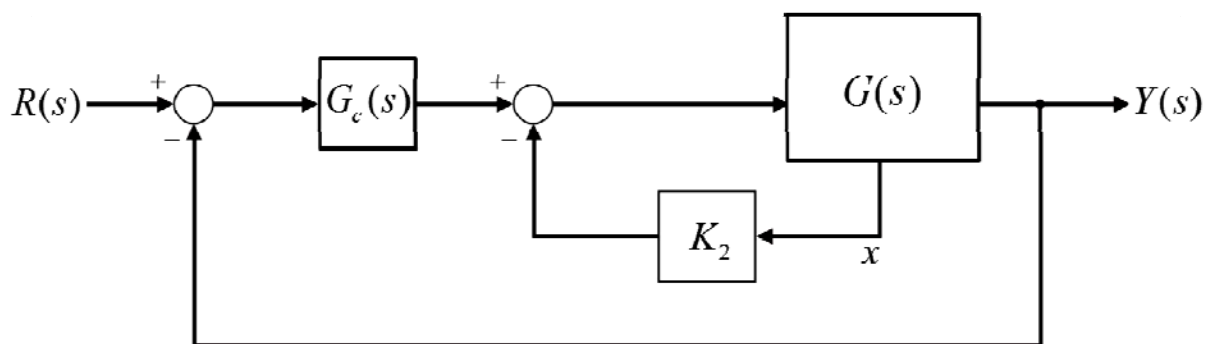

Figure 5(a) : Internal Model Design
- (b) Consider a closed-loop system as shown in Figure 5(a) where K_2 is a state feedback gain and x is the state variable. The plant is represented by the transfer function